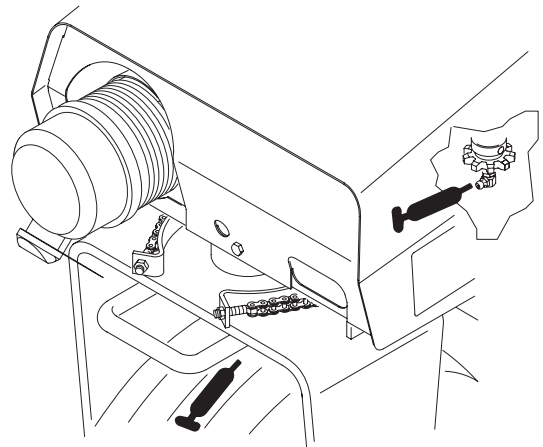

Figure 16
- Steering shaft and sprocket (Fig. 16)